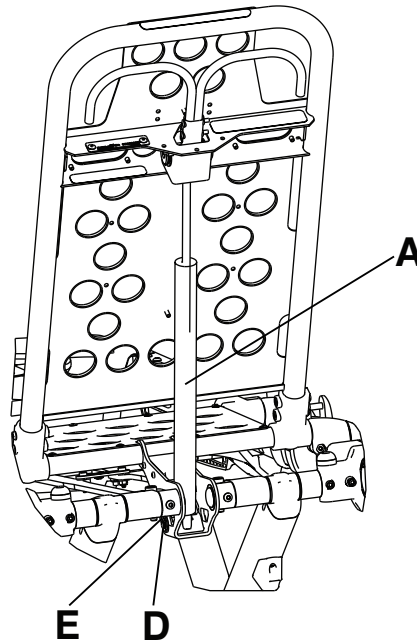
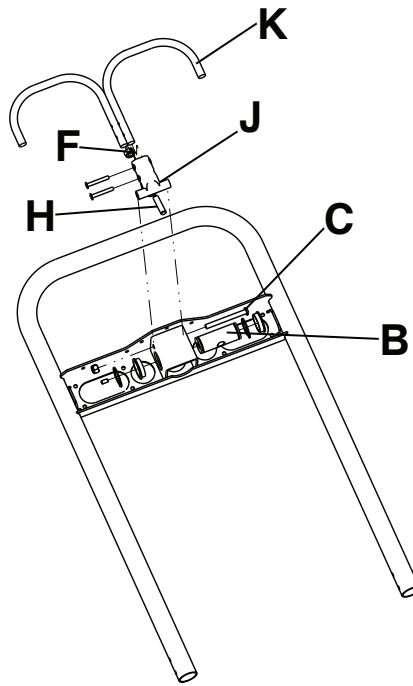

Figure 2 – Backrest adjustment
Figure 3 – Remove the backrest components
- Before you continue with the backrest adjustment procedure, make sure that the cylinder (A) is threaded into the yoke (B) so no threads are showing on the shaft of the cylinder (Figure 2 and Figure 3).
- a. Using a 3/32" hex wrench, remove the set screw (C) from the center of the yoke. Save the screw.
- b. Using a small slotted screwdriver, remove the E-clip (D) and pin (E) that secures the bottom of the pneumatic cylinder.
- c. Thread the cylinder shaft (A) into the yoke (B) so no threads are showing.
- d. Using a small slotted screwdriver, replace the E-clip (D), pin (E), and set screw (C) using **Loctite®** (Figure 2 and Figure 3).
2. Using a 1/2" combination wrench, loosen the hex nut (F) on the backrest pivot (J) while you hold the set screw (H) fixed in the pivot (Figure 3).
3. Using a 5/32" hex wrench, turn the set screw (H) until there is no play between the backrest release handle (K) and the pneumatic cylinder release button (Figure 3).
6. Using a 1/2" combination wrench, tighten the hex nut (F) while you hold the set screw fixed in the pivot (Figure 3).